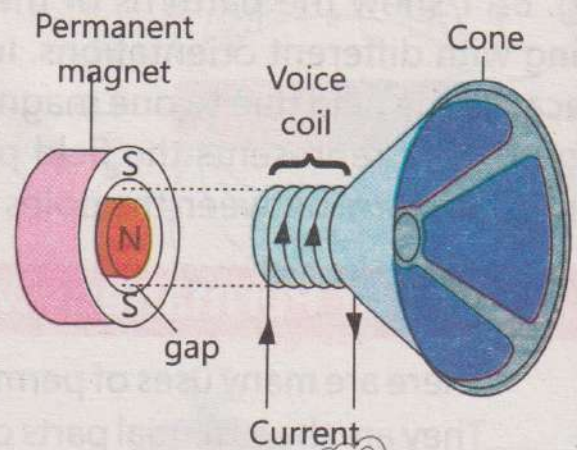

Fig. 8.14
A voice coil attached to the cone of the speaker is slipped over one pole (N) of the radial permanent magnet as shown in Fig. 8.14. From a microphone or some other sound signals in the form of varying (A.C) current passes through the voice coil that is inserted in the gap of permanent magnet. This A.C interacts with the magnetic field to generate a varying force that pushes and pulls on the voice coil and the attached cone. The cone vibrates back and forth to produce sound in the air.